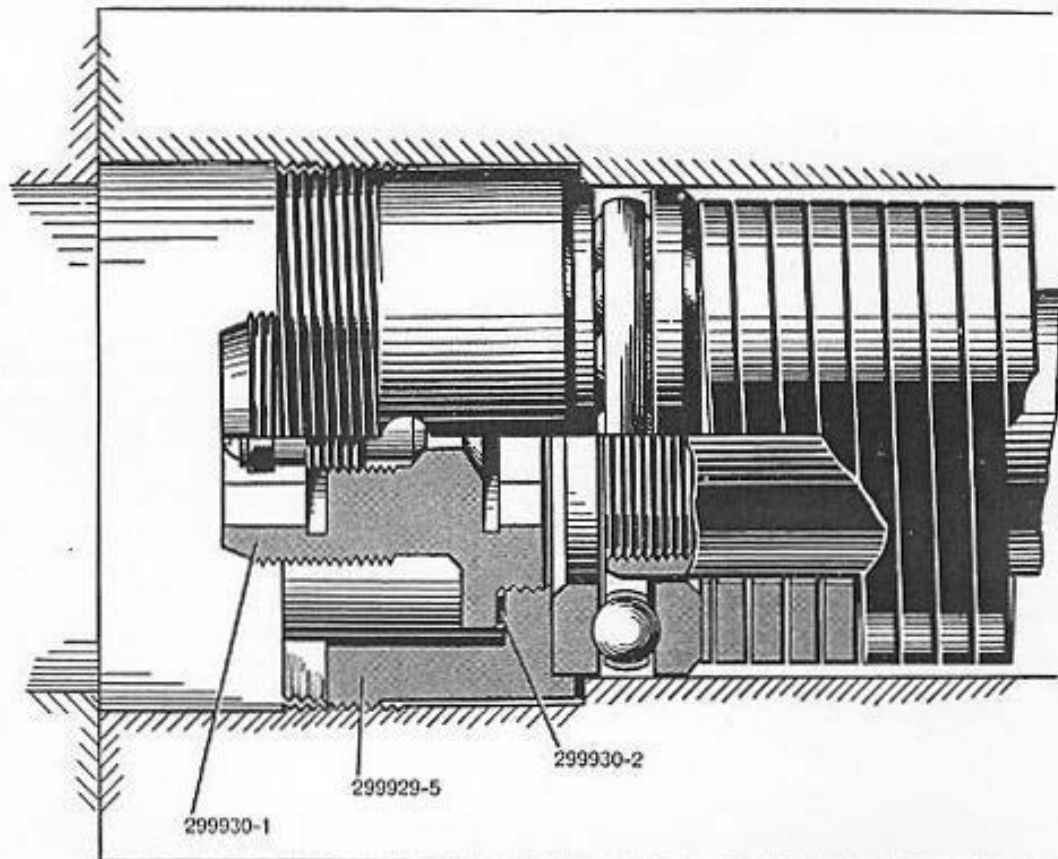

Figure 50—Retainer plug secured in retainer
34. RAM SPRING RETAINER PLUG (299930-1)—Carefully elevate the cradle to the 90 degree position and lock in place with lock lever (OE-3512). Unscrew the plug from retainer (299929-5) using retainer plug wrench (299990-3), $\frac{7}{8}$ " socket (299993-4), and swivel end wrench handle (299997-1). The engaging threads for this operation are **left hand**. Place retainer plug gasket (299930-2) in the retainer and install the retainer plug again but this time turn it over so that its short, large diameter end is threaded into spring retainer (299929-5). See Figure 50. The engaging threads for this operation are **right hand**. Tighten the plug to 125 foot pounds torque, using $\frac{7}{8}$ " socket (299993-4) and torque tension wrench (299991-2). If the tension wrench is not available, tighten with a pull of 125 pounds on a wrench handle one foot long or 62 pounds on a handle two feet long.